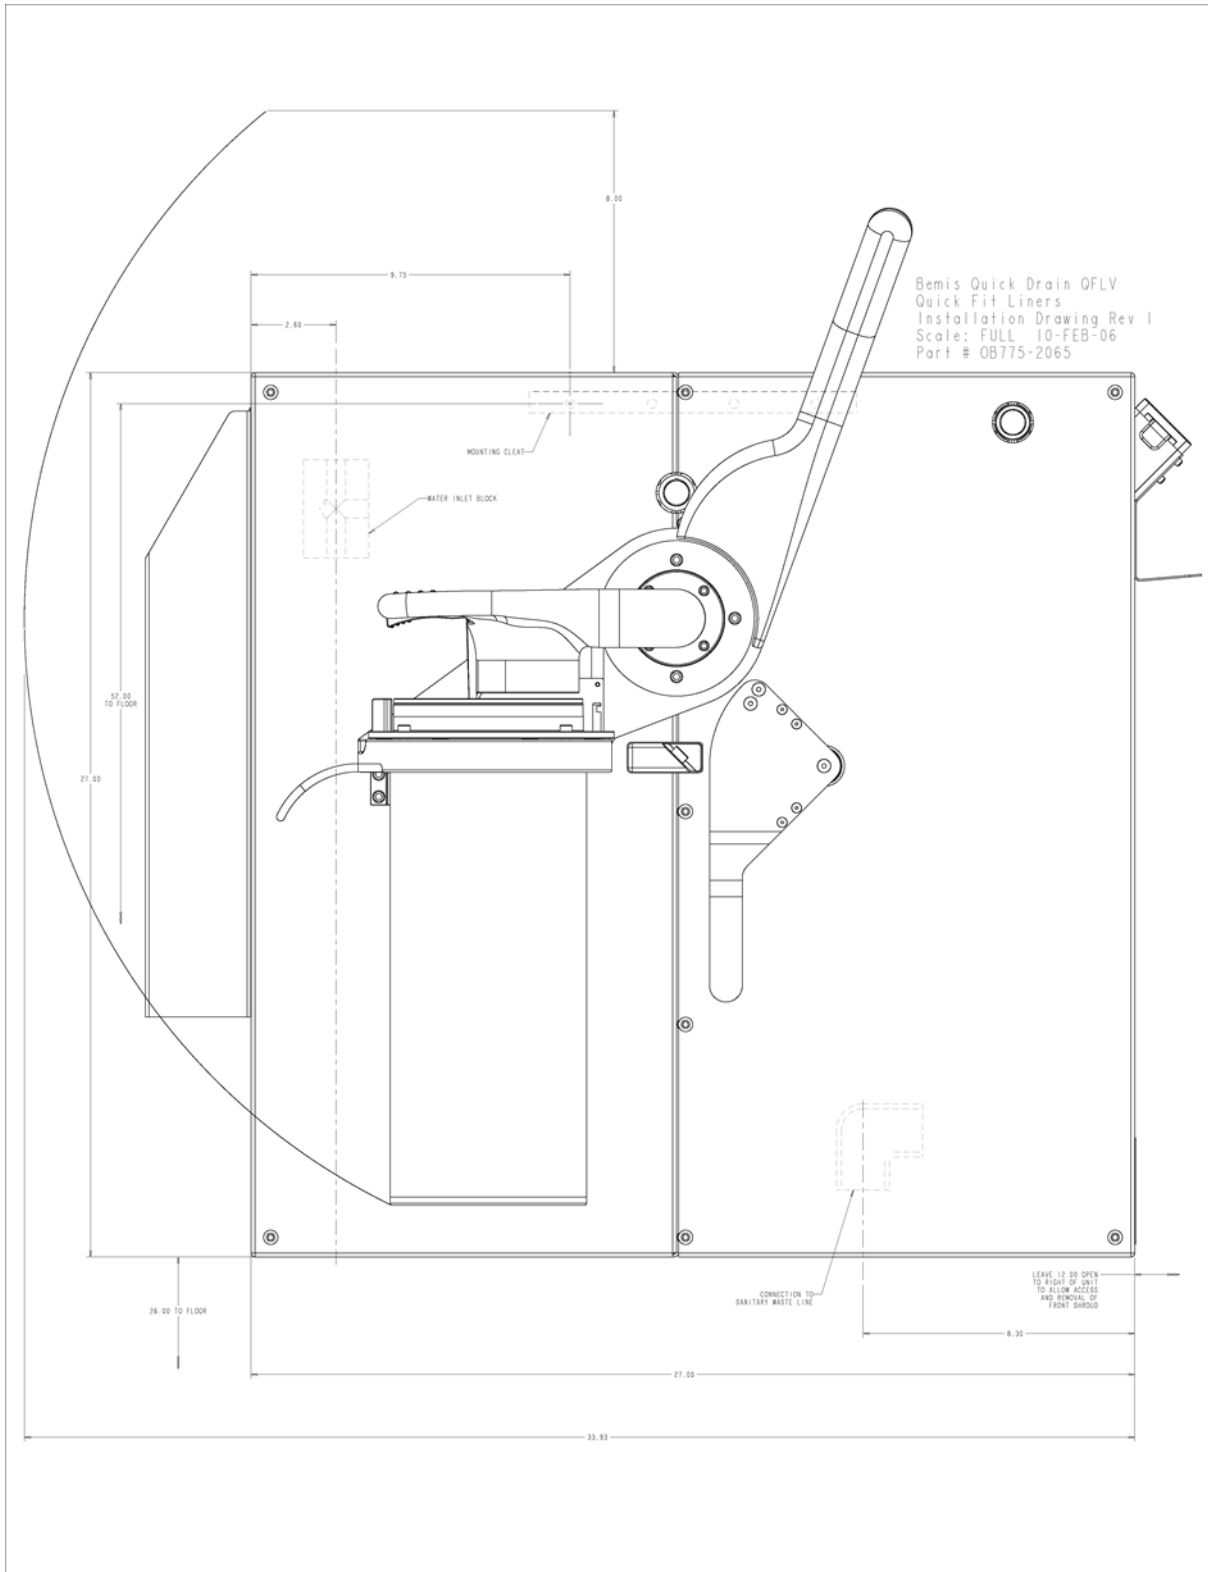

Figure 1: Quick-Drain-QFLV Installation Dimensions
- ◆ an area of open wall space per figure 1 or 2
1. Select a place for the Quick-Drain to be installed, preferably an area isolated from patient contact and treatment. Refer to Figure 1 or 2 (depending on model) for typical dimensions used and the required wall footprint.
4. Take the component bag out of the box inside the crate. Remove the hanging cleat and mount as shown in Figure 1 or 2 (depending on model). Use appropriate fasteners so that the hanging cleat can support at least 150 lbs.
7. A 1/2" water line can be run to the Quick-Drain from the top or bottom of the machine. (Reference Figure 1 or 2) When running the water line to the machine, place a water valve just before the Quick-Drain so that water can be turned off to the system if needed.